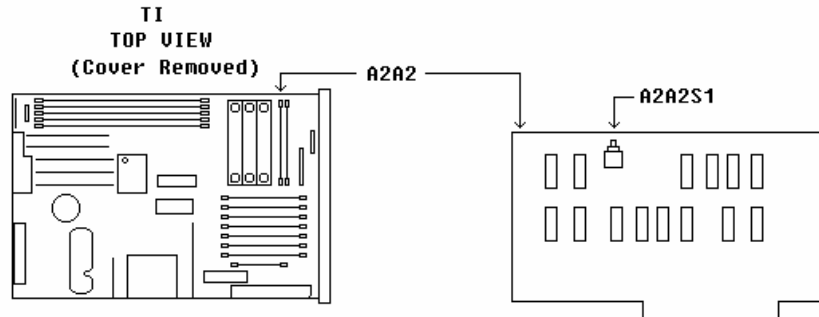

Figure 6. A2A2 board.
- (1) Remove TI protective covers.
- (2) Press TI **FREQUENCY, 2 ,GHz** keys and adjust the output level to  $-3$  dB.
- (3) Set the measuring receiver to measure tuned power at 2 GHz in a **LOG** mode.
- (4) Press number **6** pushbutton on the TI.
- (5) Press service switch A2A2S1 (fig. 6).
(25) Press service switch A2A2S1 (fig. 6).
(26) Reduce TI RF output level to minimum.
(27) Replace TI top cover.